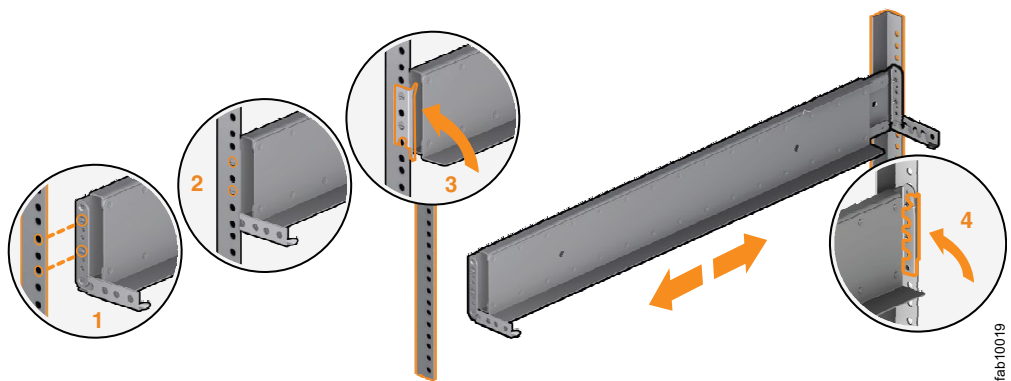

Figure 36. Closing the hinge brackets
9. Close the rear hinge bracket to secure the rail to the rack cabinet flange. (See Figure 36.)
11. Close the front hinge bracket to secure the rail to the rack cabinet flange. (See Figure 36.)